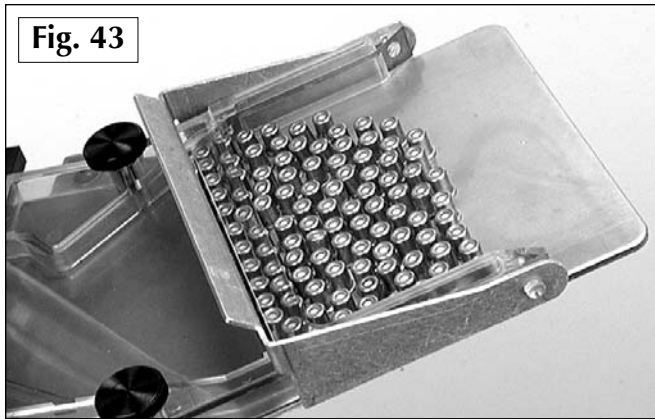

Fig. 43
10. Lift the plastic primer tray straight off the primers. Do not rotate. Check that no primers have turned on their side. If so, straighten. **Fig. 43**